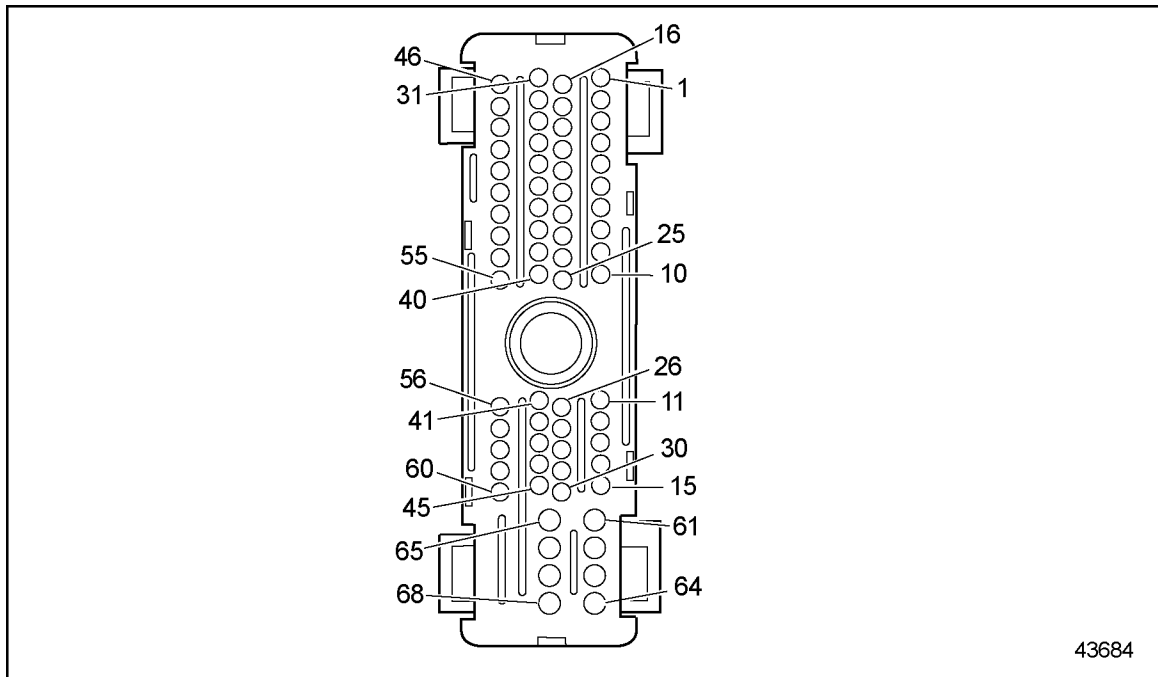

Figure 61-4 ECM/ECU VIH Connector
2. Disconnect the vehicle harness at the ECM/ECU. See Figure 61-4.
2. Measure resistance between sockets V-22 and V-60 on the VIH connector. See Figure 61-4.